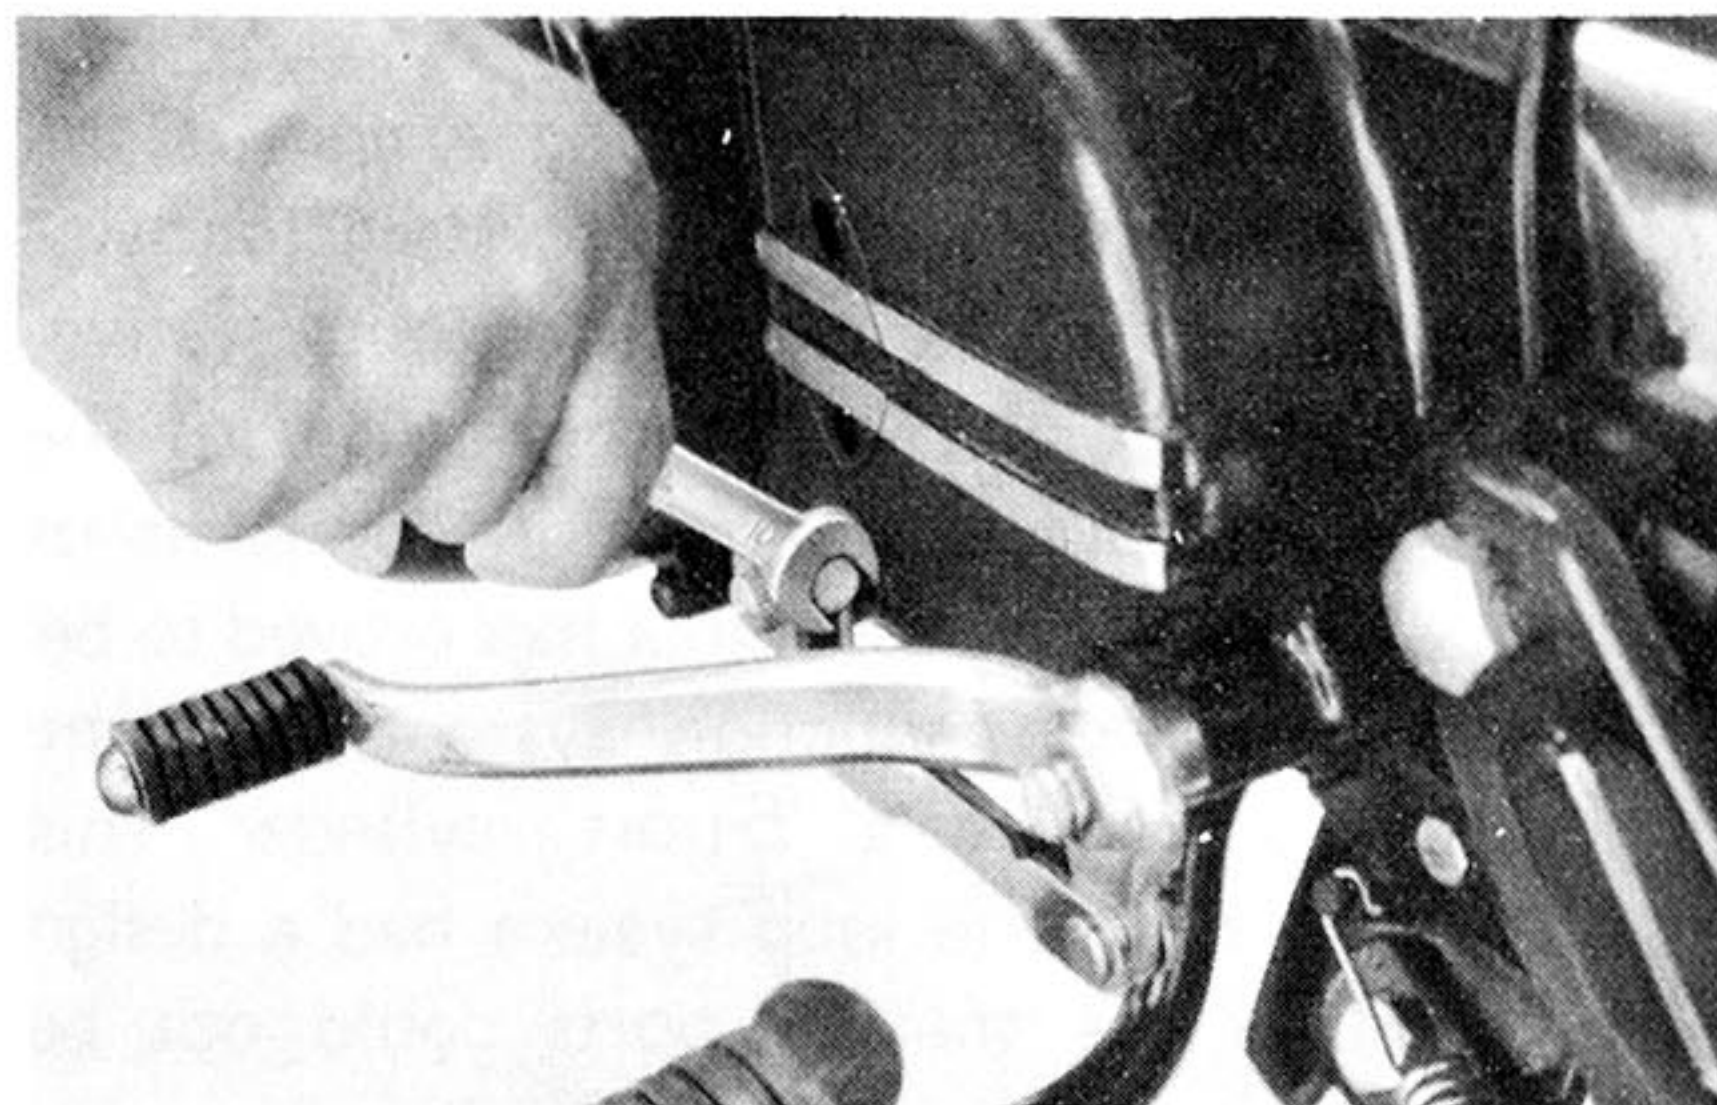

Fig. 4-1-4
3. Remove the foot rest, change pedal (Fig. 4-1-4)